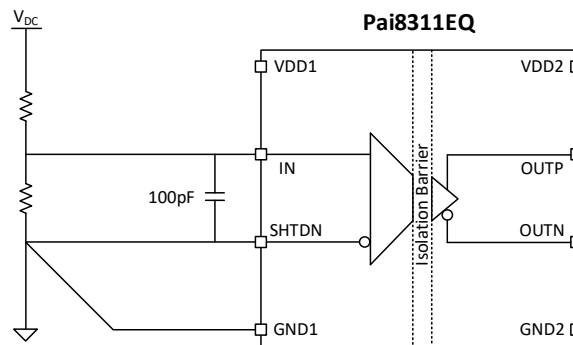

Figure 23. Input Filter
- The input bias current does not generate significant voltage drop across the DC impedance of the input filter. Most voltage-sensing applications use high-impedance resistor dividers in front of the isolated amplifier to scale down the input voltage. In this case, a single capacitor (as shown in Figure 23) is sufficient to filter the input signal.